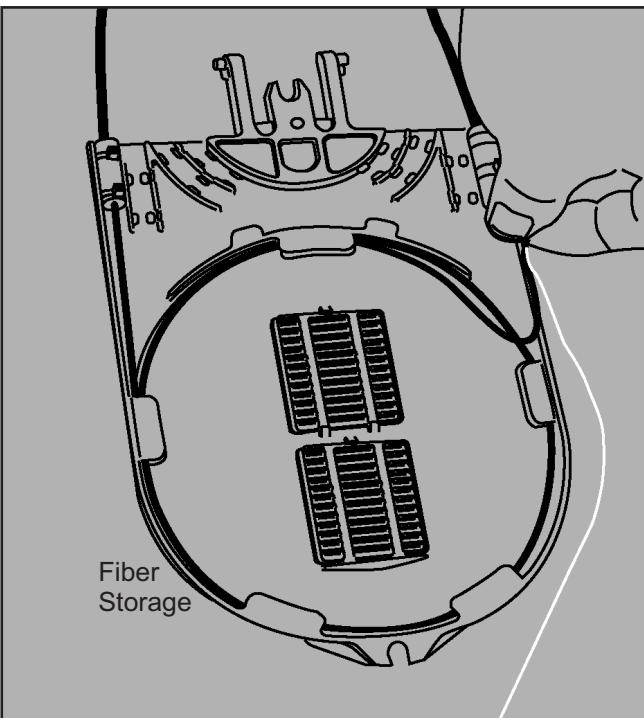

Figure 10
10. Prepare the appropriate “drop cable” loose buffer tube to be spliced to the previously prepared “express cable” following steps 3 through 9. Once prepared, attach the “drop cable” loose buffer tube with the ties provided to the SLIDE-N-LOCK splice tray opposite side to the secured express cable loose buffer tube. (Figure 10)